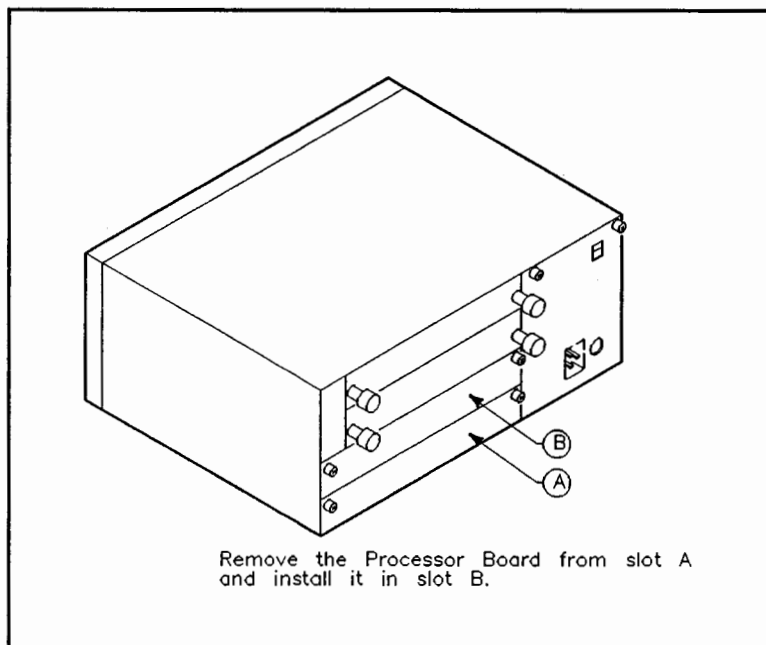

Figure 4-61. Processor Board Placement
- b. Remove the top wide slot cover plate from the back of the computer (see Figure 4-61).